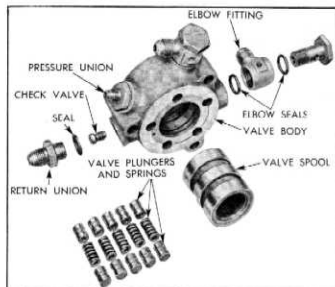

Fig. 33—Valve Parts
2. Remove the return line union and remove the check valve. Discard union "O" ring seal. Figure 33 shows the valve parts.